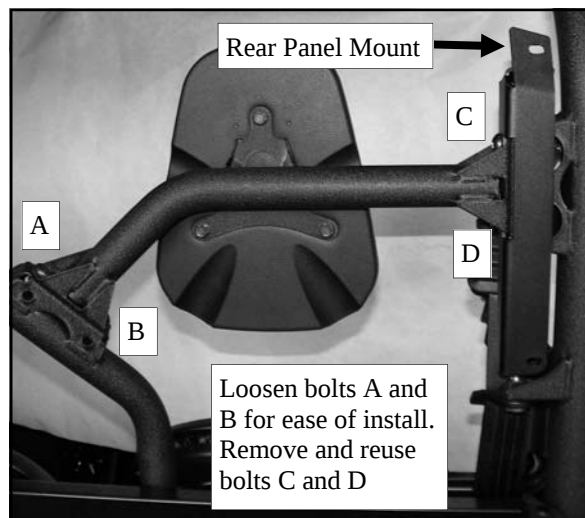

Fig. 5.1 (View of rear right corner)
5.1 See fig. 5.1. Install Rear Panel Mount.